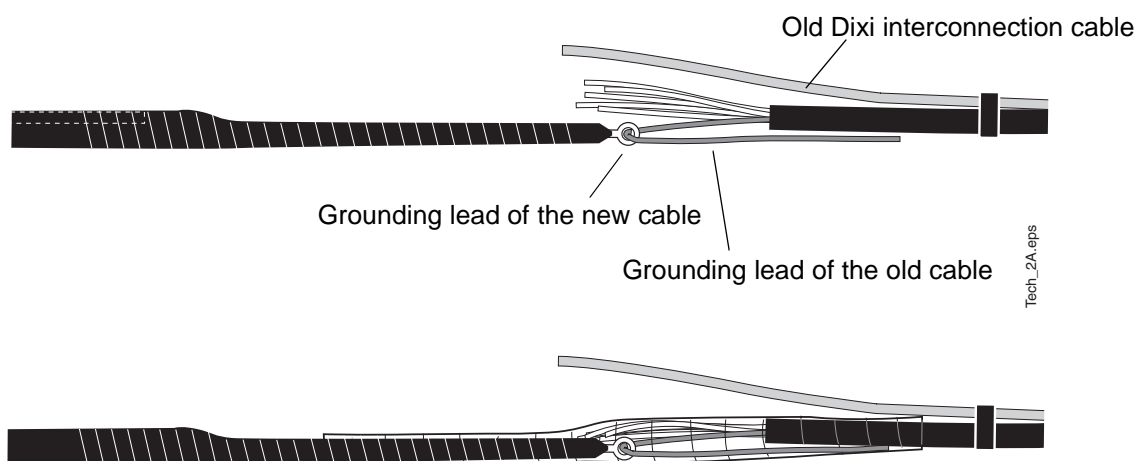
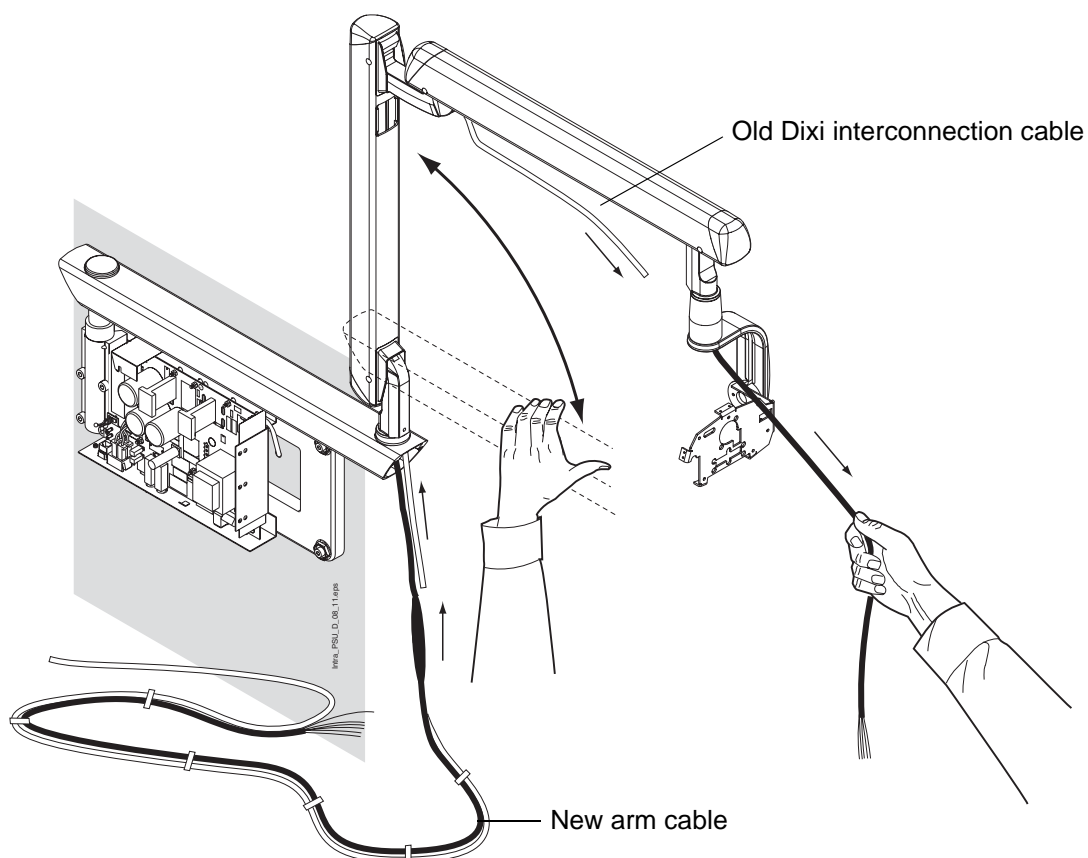

Figure 19
Figure 20
11. Join the old and new cables together as shown in figure 19 below. Tape the joining point firmly. Do not tape the old Dixi interconnection cable, it is pulled out from the opening on the bracket arm (see figure 20)